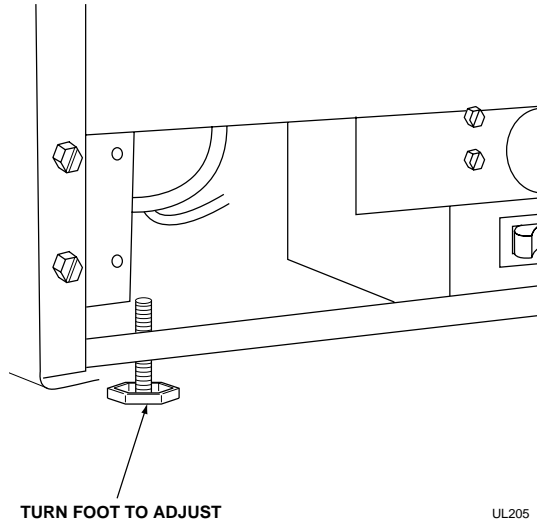

Figure 11
2. If the ice maker is not level, adjust the feet on the corners of the unit as necessary (see Figure 11).